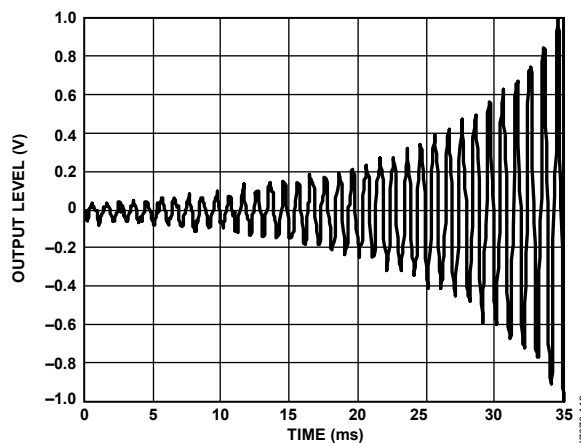
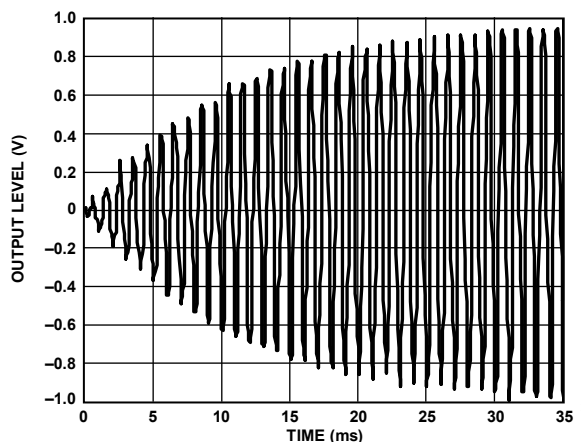
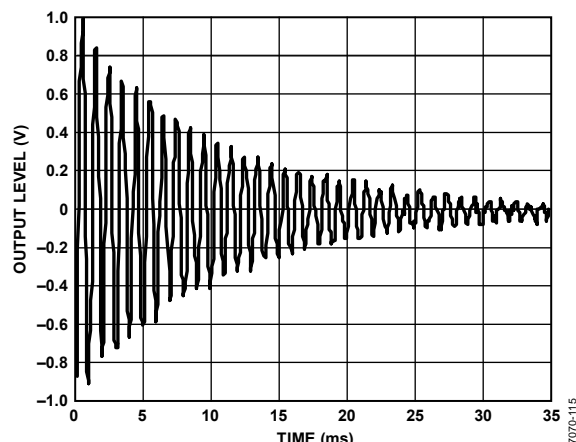

Figure 41. Slew RAM—Constant Decibels Update Increasing Ramp
Figure 42. Slew RAM—RC Update Increasing Ramp
Figure 43. Slew RAM—Constant Decibels and RC Updates Decreasing Ramp, Full Scale
An exponential update is accomplished by shifts and additions with a range from 6.1 ms to 1.27 sec (-60 dB relative to 0 dB full scale). When the ramp type is set to 01 (constant decibels), each step size is set to the current value in the slew data. When the ramp type bits are set to 10 (RC), the step size is equal to the difference between the values in the target RAM and the slew RAM (see Figure 41, Figure 42, and Figure 43).